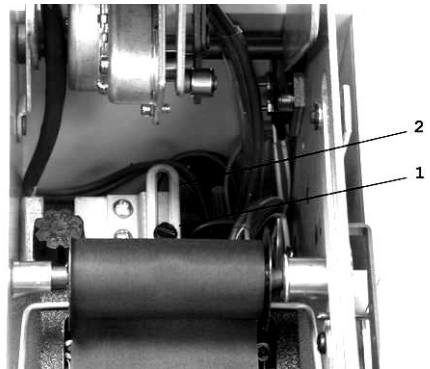

Figure 7
3. Loosen the trigger adjustment screw (Figure 7, Number 1) and slide the trigger assembly (Figure 7, Number 2) to the desired position. (**Note:** Moving the trigger assembly towards you places the registration closer to the edge of the document. Moving the trigger assembly away from you places the registration farther from the edge of the document.)